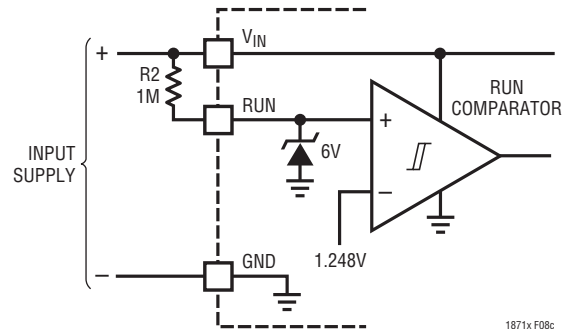

Figure 8c. External Pull-Up Resistor On RUN Pin for “Always On” Operation
**For applications where the RUN pin is only to be used as a logic input, the user should be aware of the 7V Absolute Maximum Rating for this pin!** The RUN pin can be connected to the input voltage through an external  $1\text{M}$  resistor, as shown in Figure 8c, for “always on” operation.